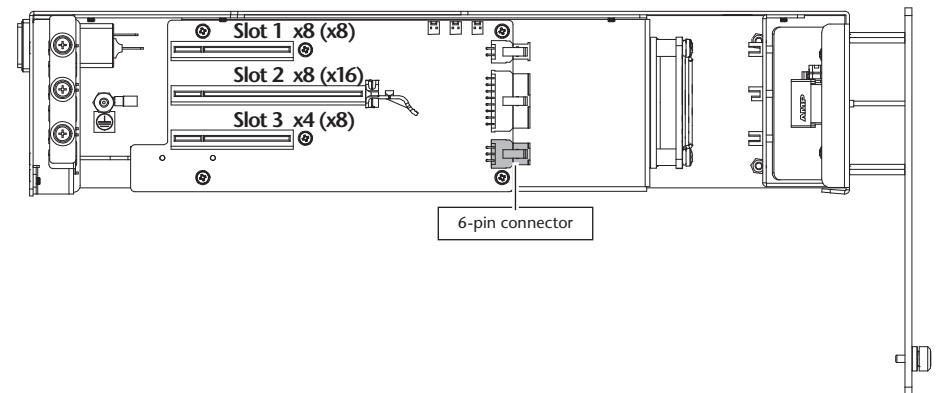

Figure 6
4. **OPTIONAL STEP:** If you are installing a PCIe card which requires additional power and must be connected to auxiliary power, locate the wire harness connected the 6-pin connector indicated in the graphic to the right (Figure 6). Remove the cable twist tie securing the wire harness, and move the loose connector aside for later connection. Otherwise, go to the next step.
Support Note: If you are installing an Avid Pro Tools|HDX PCIe card, you will need to disconnect the PCIe card expansion module's auxiliary power wire harness plugged into the 6-pin connector indicated in Figure 6, and replace it with the one included with the Avid card.